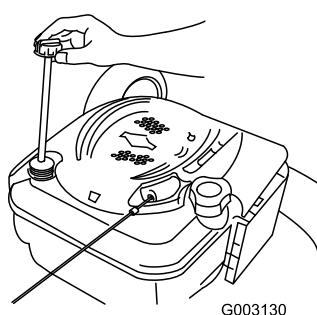

Figure 30
- Remove the dipstick (Figure 30).